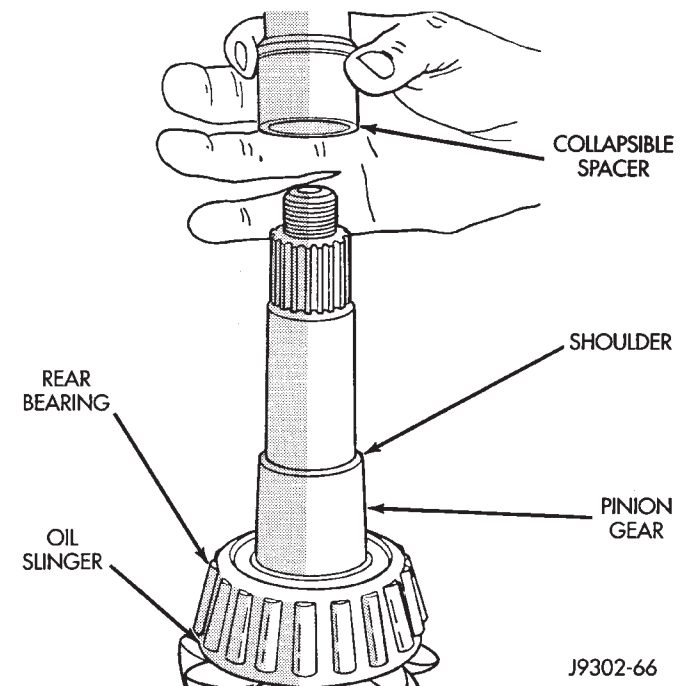

Fig. 39 Collapsible Spacer
(10) Remove the collapsible preload spacer from pinion gear (Fig. 39).